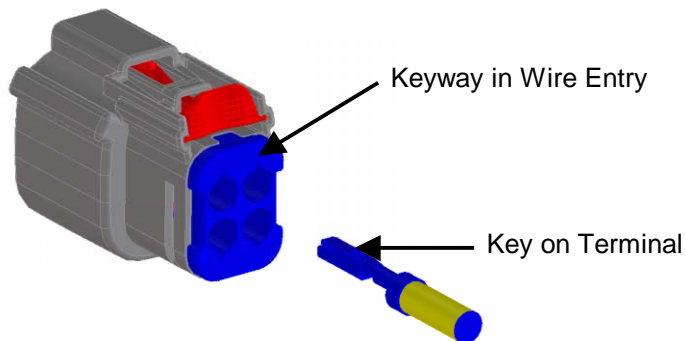

Figure 2: Terminal Orientation
2. The terminal must be positioned correctly when inserted into the housing to assure proper latching and retention. Orient the key on the back of the female terminal with the keyway on the wire entry cavity in the rear of the housing (See Figure 2). Insert the terminal into the housing until it clicks or a slight pull back on the wire is met with resistance from terminal retention feature.